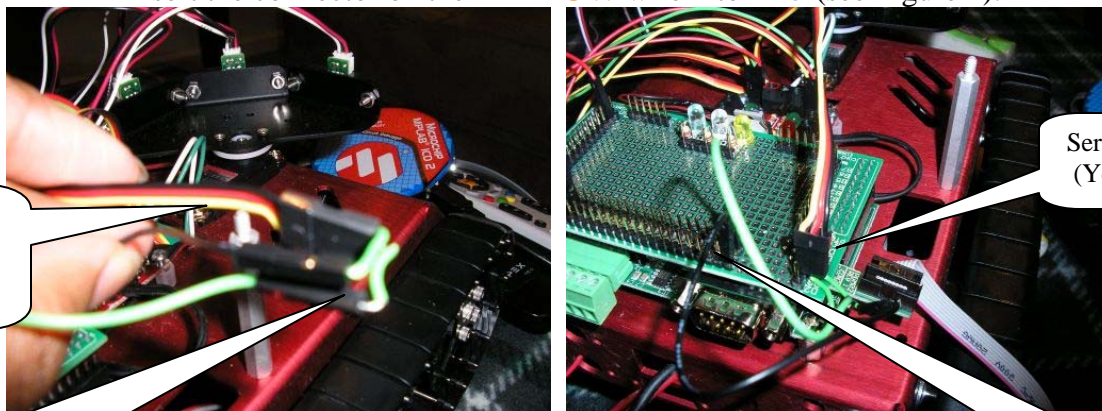

Figure 1: Infrared Sensor Servo Mount Connection
- iii. To use the Infrared Sensor Servo Mount, connect it to the microcontroller using the red, yellow, and black cable. Use a short wire and 6'' jumper wire to connect the **BLACK** cable to the **GROUND** buss on the microcontroller. Use a short wire and jumper wire to connect the **RED** center wire to the **VCC** buss. Finally insert the connector on the **YELLOW** wire into **RD3** (see Figure 1).